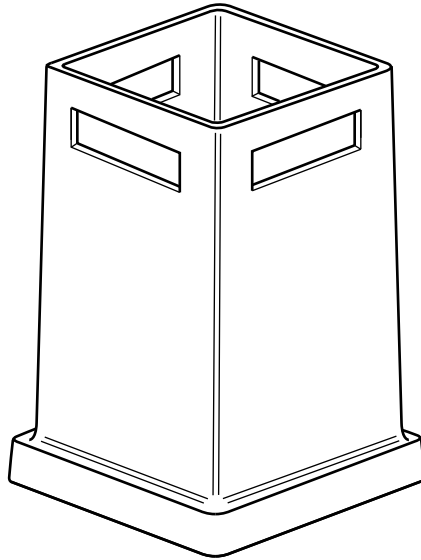

Fig. 3
(e) Fig. 3 shows the main body of the litter bin.
(i) State a **suitable specific material** for the main body of the litter bin shown in Fig. 3.
- (ii)** Describe, in detail, how the main body of the litter bin shown in Fig. 3 would be manufactured as a batch of 250.